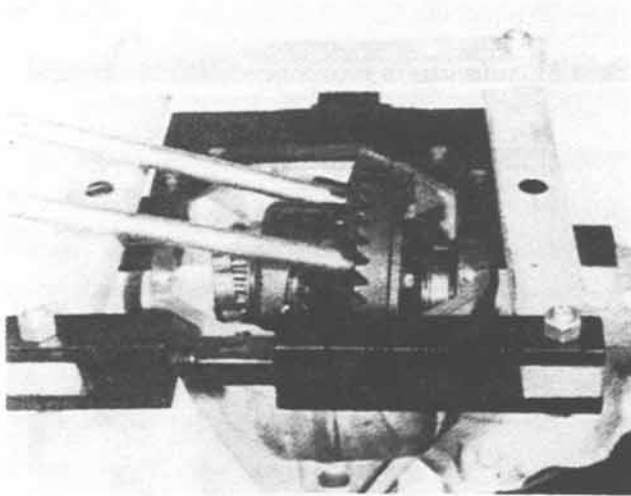

Figure 8
4. Operate the vehicle for approximately ten (10) miles (16.1 Km), making at least ten (10) figure 8 turns to flush the old lubricant out of the clutch packs.
6. It is possible that slight chatter, requiring additional vehicle operation may remain after Step 5. If chatter still persists after one hundred (100) miles (161 Km) of vehicle operation, or remains severe after Step 5 above, disassembly and repair will be necessary. Follow procedures for disassembly and assembly as illustrated in the manual.